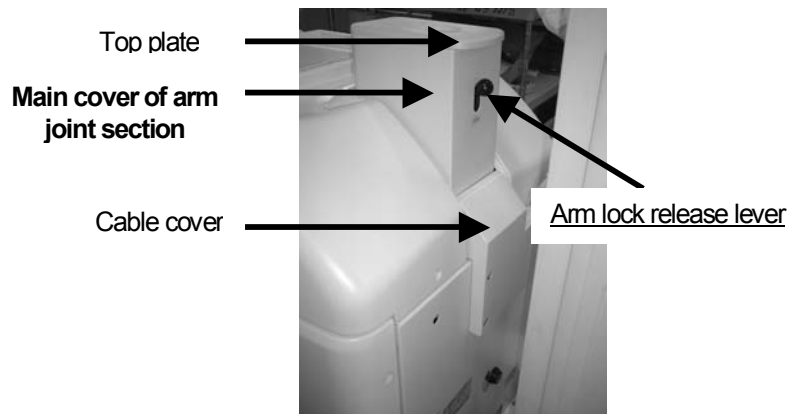

Fig. 6-11 Name of each part of the arm joint section
2. Unscrew the hexagon socket head cap screws at the two locations indicated in Fig. 6-11.